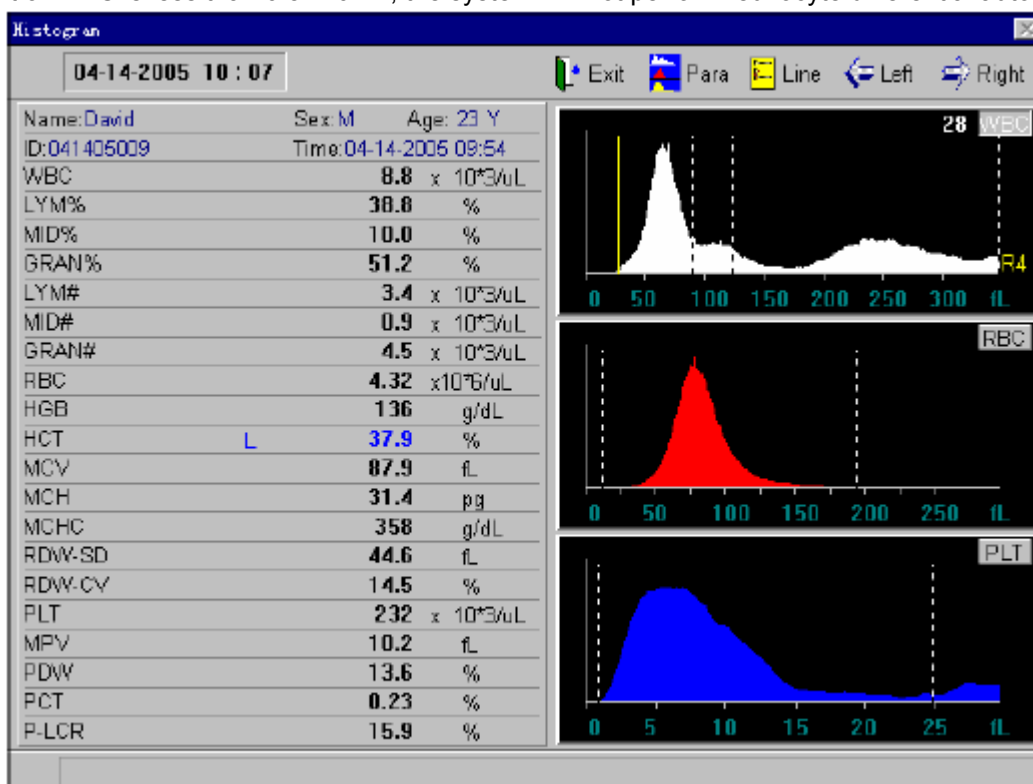

Figure 3-2
- a) In the blood cell analyzer window, select "Histogram" in menu. The instrument accesses histogram adjustment window, as shown in figure 3-2. Press "Para" button to adjust the histogram.